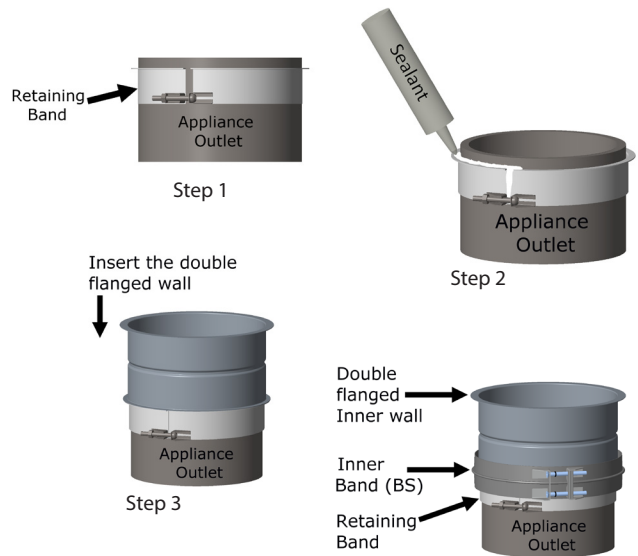

Figure 76 - Installation of a Single Wall Adaptor (SWA) on an appliance
4. Tighten the Locking Band (BS) to hold and seal the adaptor in place. See Figure 76.